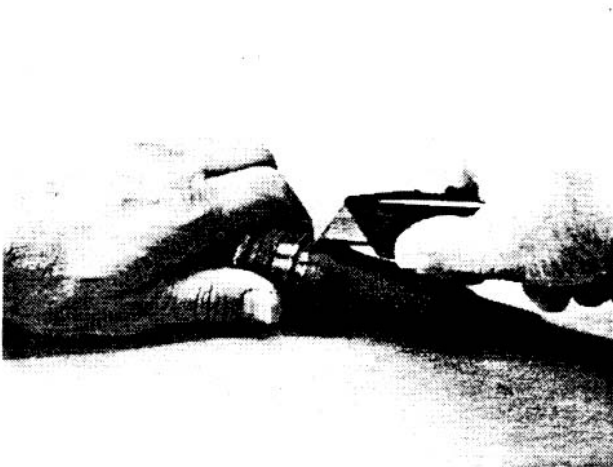

Figure 7. Cutting Standard Boot.
c. In some cases the boot may have to be cut off. When a boot has to be cut off, score (cut) the boot lengthwise, taking care not to cut through the boot into the cable jacket (Figure 7).